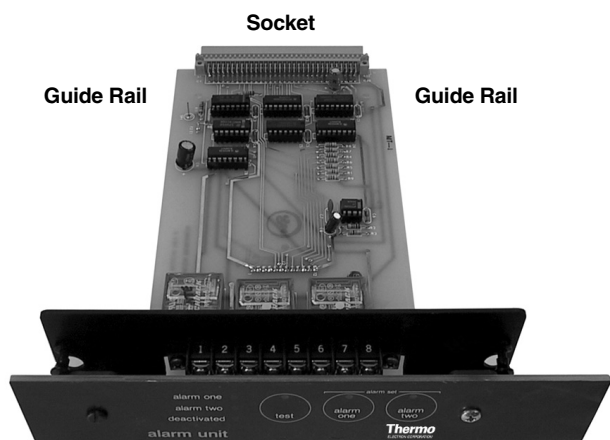

Figure 14:
2. Place PC Board (see **Figure 14**) onto instrument guide rails. Rear of PC Board should touch backplane and plug should fit securely into its socket. Check that module bracket is against both rails. Press the two plastic plungers down to lock module in place.